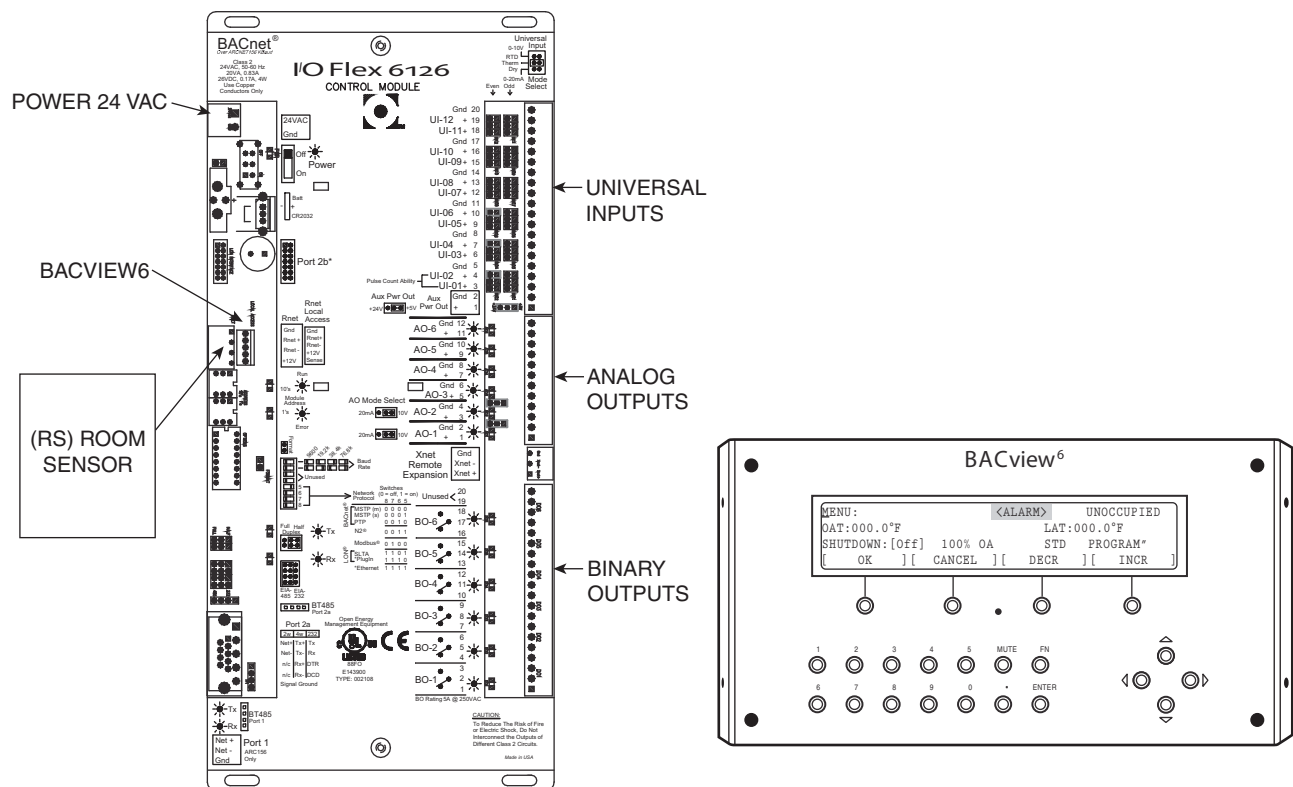

Fig. 4 — Typical Controller Components
Controller Ports — The I/O Flex controller has six binary outputs (BO), twelve universal inputs (UI), and six analog outputs (AO). All of the input and output (I/O) settings are preconfigured from the factory to reflect the factory unit configuration. The controller's I/Os are field configurable to reflect field changes to the factory configurations. See Fig. 4 for typical controller layout.